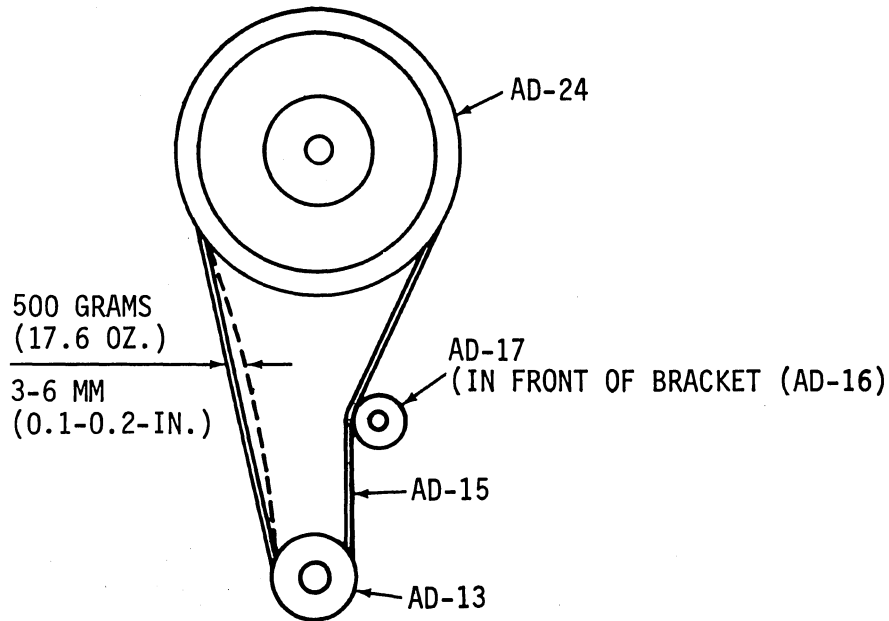

Figure 5-3. ADJUSTMENT OF TIMING BELT (AD-15)
##### A. MAIN MOTOR PULLEY BELT (AD-15) (REFER TO FIGURE 5-3)
2. Adjust position of tensioner (AD-17) so that movement of belt (side away from tensioner) when hand depressed with a pressure of 500 grams (17.6 oz.) travels inward to a maximum distance of 3-6 mm (0.1-0.2-in.). (Reference Figure 5-3)